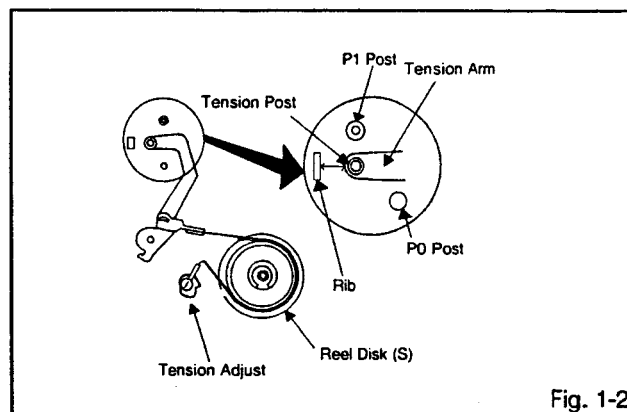

Fig. 1-2
1. Turn on the power and set to the PLAY mode adjust the Tension Adjust so that the Tension Post is at the position of $0.3\text{mm} \sim 0.5\text{mm}$ from the Rib. (Refer to Fig. 1-2)